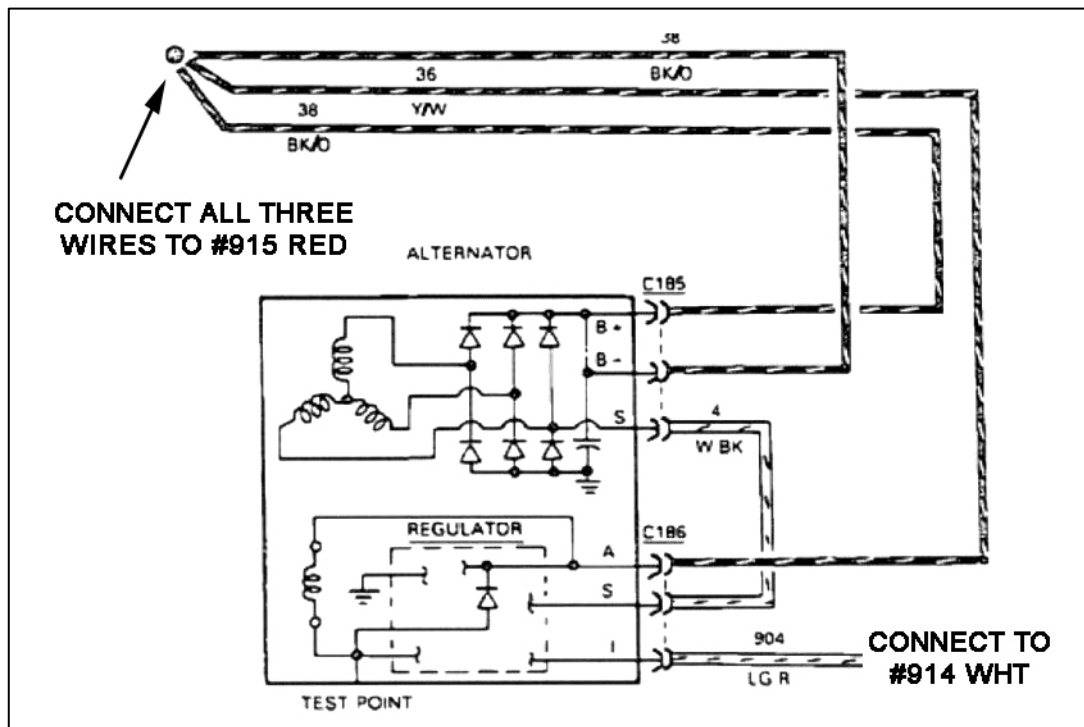

Figure 8-1C Ford 2G Internal Regulator Alternator
- 8.1.6 Connect ENGINE SECTION wire #915 RED to three wires as noted in **Figure 8-1C**.
- 8.1.7 Connect ENGINE SECTION wire #914 WHT to the Light Green/Red stripe wire as noted in **Figure 8-1C**.